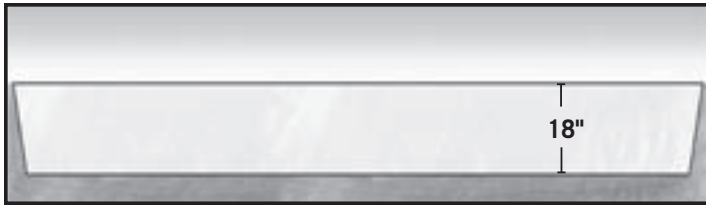

Fig. 3 First, dig entire basin to 18" depth.
- We suggest excavating the basin no more than 24" deep. This depth provides the proper water volume in the basin to operate the waterfalls. (See figs. 3 and 4)